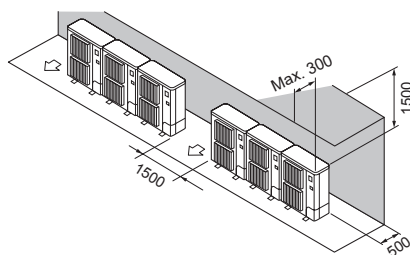

Fig. 2-14
- (2) Obstacles at rear and above only (Fig. 2-14)